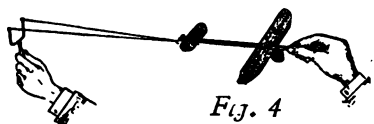

Fig. 4
If you wish a straight flight, with the wind, set the front edge of the forward plane on the second notch in the elevating-block and catch the hook (A) on the rubber of the sling. Grasp the rear end of the stick between thumb and forefinger, as shown in Fig. 4, draw back as far as you can, and release the grasp on the stick. If your planes are truly set the little device will sail gracefully upward and away for a hundred feet or more. If a longer flight is desired,